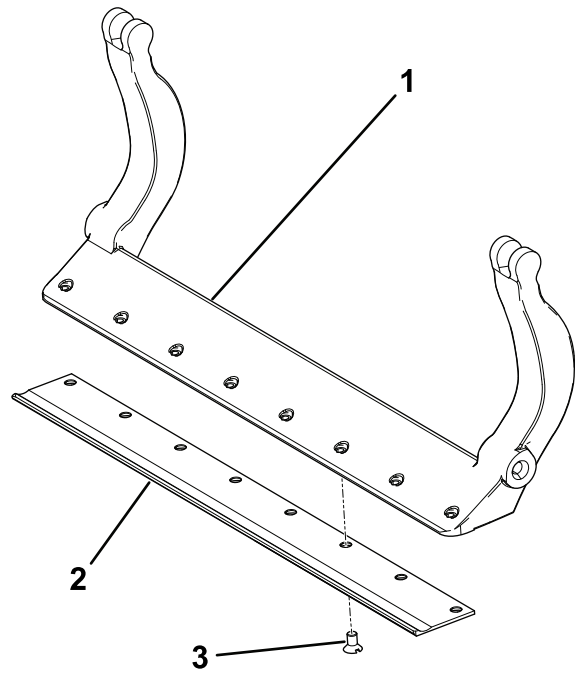

Figure 34
3. Apply anti-seize compound to the screws and install the bedknife to the bedbar as follows (Figure 34):